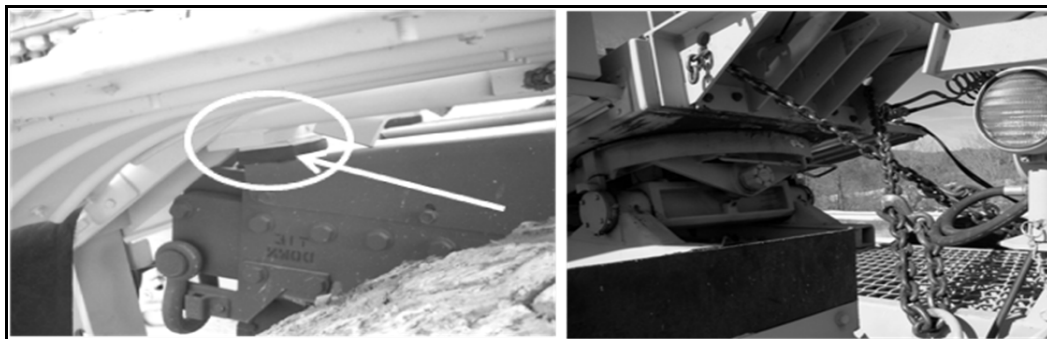

Figure 4 – Cross Chains tight with main frame support pads resting on after frame
8. Using the remote control, “RETRACT” the booms. The cross chains should tighten as the support pads set back down on the after frame of the prime mover. (figure 4) (If the chains remain slacked after the support pads come to rest, repeat steps 7 and 8.)